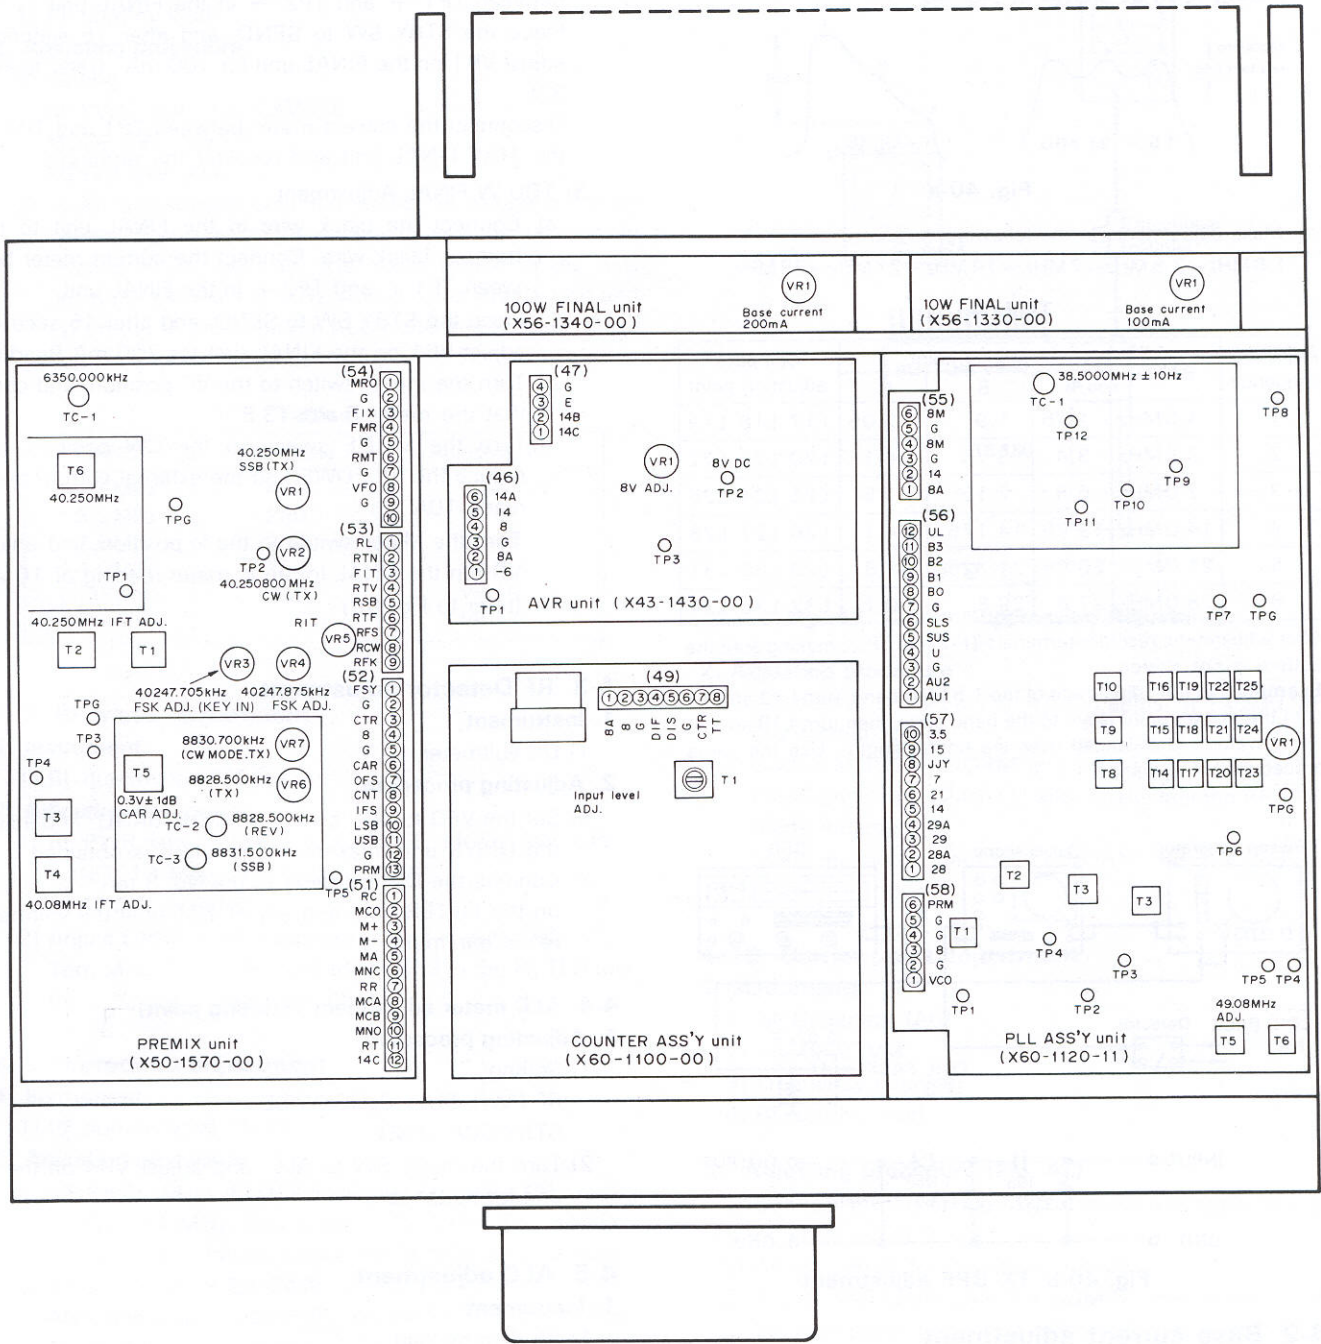

Fig. 37 TS-180 Top view
Connect the frequency counter to the 1P terminal (No. 54) on the PREMIX unit, and adjust frequency to 6350.000 kHz by TC 1. (refer to Fig. 37)
- 1) Connect the frequency counter between terminal TP-1, PLL unit (X60-1120-00/11/61) and the GND terminal. Connect the voltmeter between terminal TP-3 and the GND terminal. (refer to Fig. 37)
- 1) Connect the frequency counter to TP-8 on the PLL ASS'Y unit, on the 1.5 MHz BAND, adjust frequency to 38.500000 MHz \pm 10 Hz by TC-1. (refer to Fig. 37)
Remove the jumper, and connect the current meter between TP1 + and TP2 - in the FINAL unit. Place the STBY SW to SEND, and after 15 seconds, adjust VR1 on the FINAL unit for 100 mA. (refer to Fig. 37).